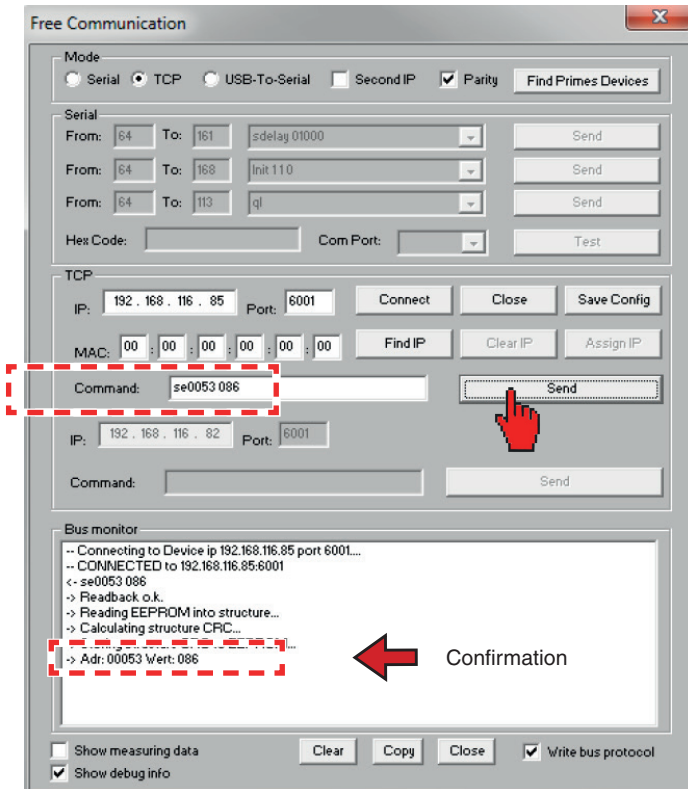

Fig. 12.2: Changing the IP address in the menu *Free Communication*
- Click to **Send** and wait for the confirmation in the bus monitor (in Fig. 12.2 „-> Adr:00053 Wert: 086“)